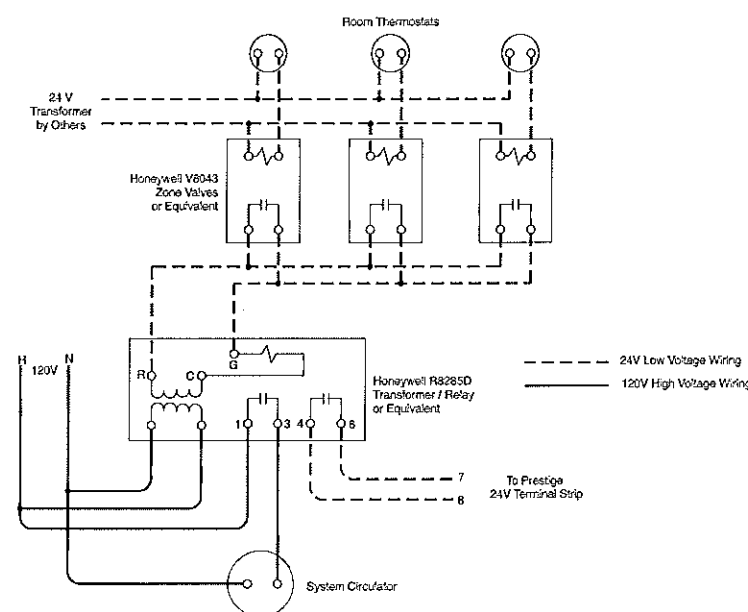

Fig. 21: Secondary System Circulator Wiring
To energize the system circulator shown as item 12 in Fig. 10 page 21 reference Fig. 21. Installer to provide a Transformer / Relay such as Honeywell R8285 or equivalent and Zone Valves with isolated end switch such as Honeywell V8043 or equivalent.